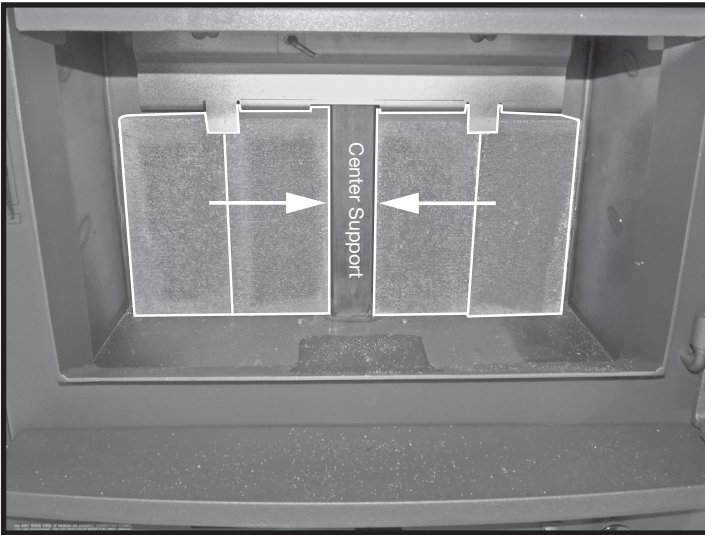

Figure 18: Rear bricks in place.
1. With the firebox empty, insert the rear wall bricks first (Figure 17). Insert the bricks up in behind the tabs and then push the bricks toward the center post so that there is no gap showing between the bricks and the post (Figure 18).